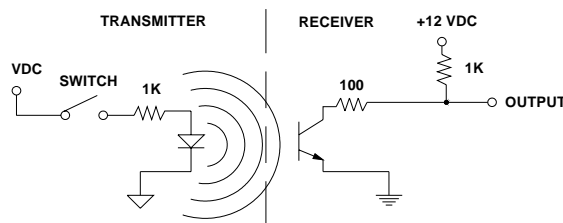

Figure 5. Typical use of discrete opto circuit.
Terminal 6: **OPTO+** use in conjunction with terminal 1 for discrete input connection (see figure 5 for example).
Terminal 6: OPTO+ Positive side of discrete output. The status of this directly corresponds to the input to the OPTO on the transmitter. If the transmitters OPTO is high the receivers OPTO output will be low when connected as in figure 5.
- 9.5. Discrete optically isolated digital input/output (typically 0 to 5Vdc). Both the input and the output are optically isolated see figure 5 for an example connection.